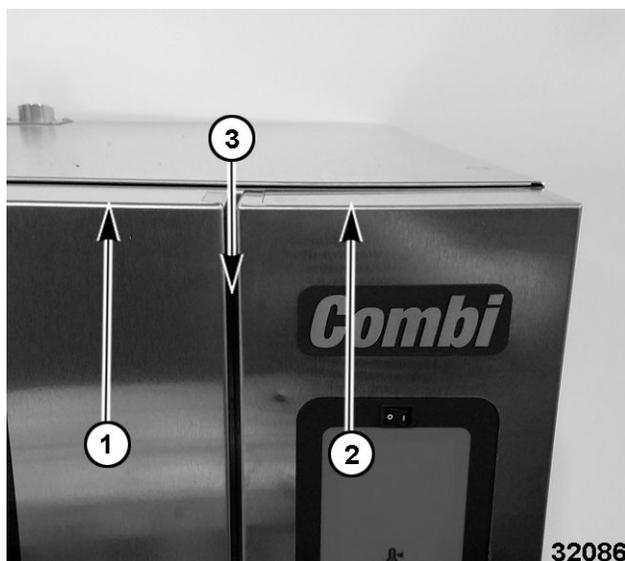

Fig. 11
- Adjust door (1, Fig. 11) so top is flush with control panel (2, Fig. 11).
NOTE: Keep in mind you must keep the proper distance between the door and control panel (3, Fig. 11) for Go/No gauge to pass.